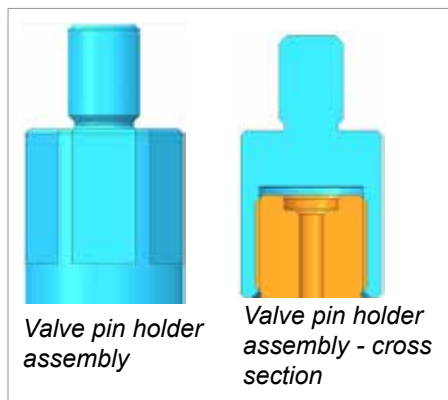

Figure 6-8 Valve pin holder assembly
2. Install this assembly onto the top piece of the valve pin holder. Torque to 8 to 10 Nm [6 to 7 ft-lbs]. See Figure 6-8.